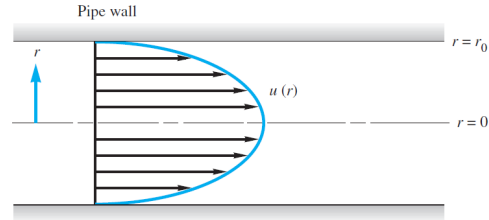

Fig. 1.9
- 1.9 For low-speed (laminar) steady flow through a circular pipe, as shown in Fig. 1.9, the velocity u varies with radius and takes the form
3.1 For steady low-Reynolds-number (laminar) flow through a long tube (see Prob. 1.9, Fig. 1.9), the axial velocity distribution is given by $u = C(R^2 - r^2)$, where R is the tube radius and $r \leq R$. Integrate $u(r)$ to find the total volume flow Q through the tube.